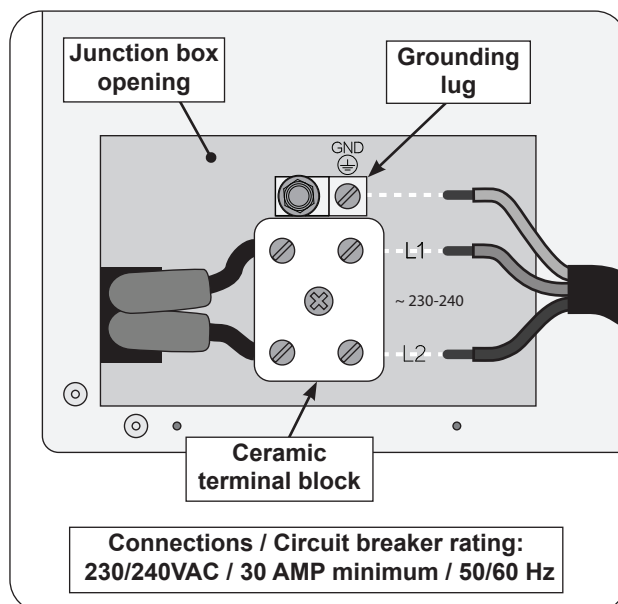

Fig. 27-2 Wire connection diagram
3. Connect the wires to the ceramic terminal block. Reference the wiring information below and Fig. 27-2.